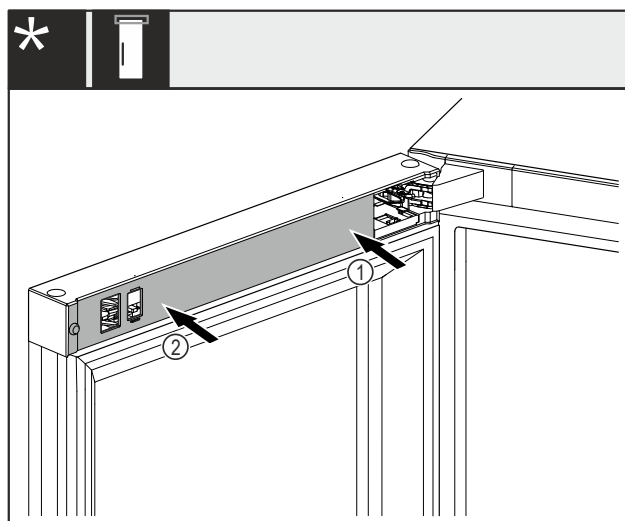

Fig. 47 \*
- ▶ Place the cover Fig. 47 (1) on the bearing bracket side first and snap into place.\*
- ▶ Fit the cover Fig. 47 (2) on the outside and snap into place.\*